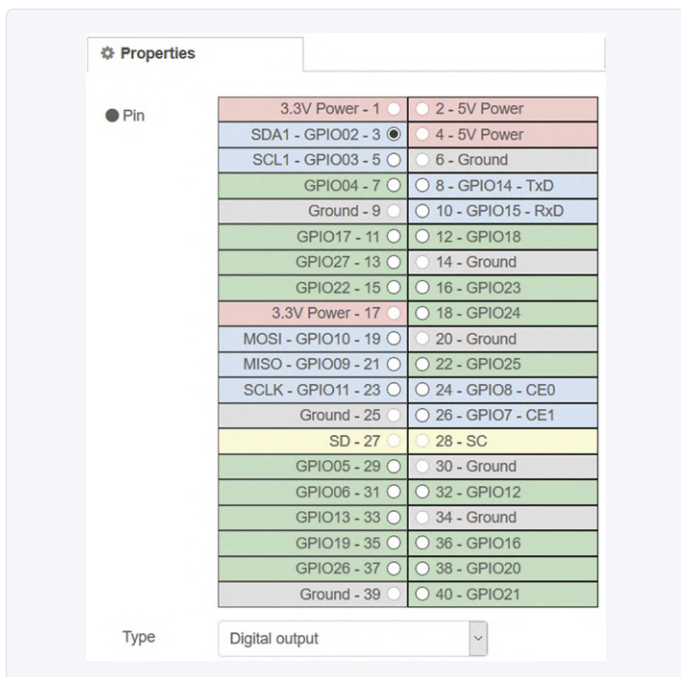

Figure 6: Configuring node RPi's gpio out.
- Double-click on *rpi gpio out* node to configure it as shown in **Figure 6**. Set the *Pin* to GPIO2, *Type* to Digital output, click *Initialise pin state* and set the initial pin state to 0. Set the name of the node to LED. Click *Done* to close the configuration screen.